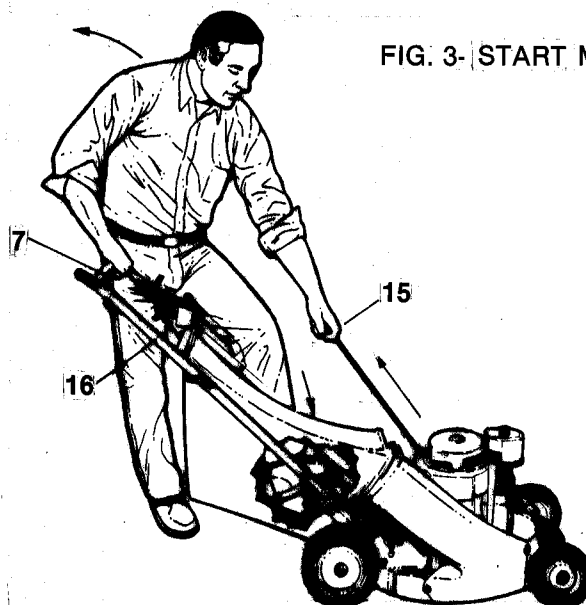

FIG. 3 START MOWER
2. Hold **BLADE CONTROL** (7) firmly against **UPPER HANDLE** (16) - otherwise the engine will not start! Refer to FIG. 3.
4. Bend at waist to reach **ROPE START HANDLE** (15) and straighten up as you pull handle - using back muscles more than arm muscles.